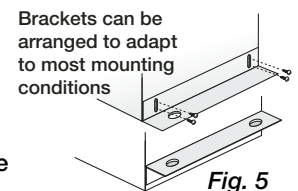

Fig. 5
2. Attach adjustable mounting brackets to fan, but leave the screws loose until proper height is determined, shown in Fig. 5. For fan and fan/light combination opening, cut a 14 1/8 by 11 3/4 inch hole in the ceiling. For fan/CRD combination opening, cut a 14 3/8 by 12 1/4 inch hole in the ceiling.